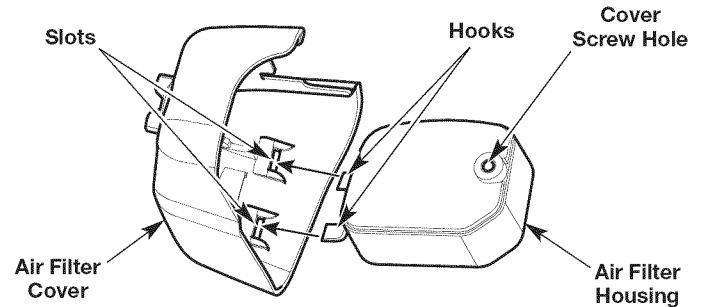

Fig. 19
6. Reinstall the air filter in the air filter housing (Fig. 19).
7. Insert the hooks on the air filter housing into the slots on the air filter cover (Fig. 19).
8. Swing the air filter cover to the right and align the cover screw with the cover screw hole (Fig. 19). Tighten the cover screw to secure the air filter cover.